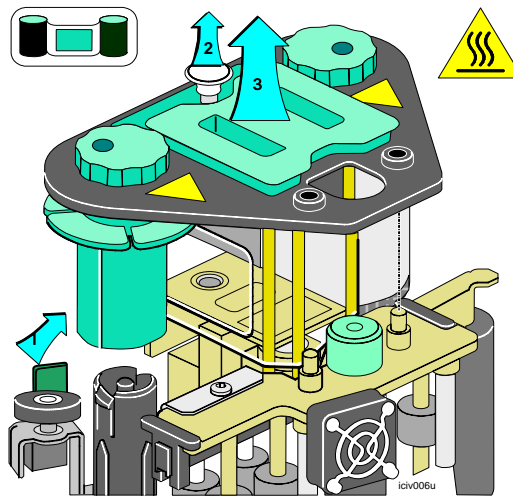

Figure 4-8: Remove the overlay cartridge
- 2 Move the supply tracker away from the supply roll until it stops (step 1 in Figure 4-8).
- 3 Pull up on the cartridge lock to release the overlay cartridge (step 2 in Figure 4-8).
- 4 Lift the overlay cartridge straight up until the cartridge is above the edge of the printer (step 3 in Figure 4-8). Remove the cartridge from the printer.